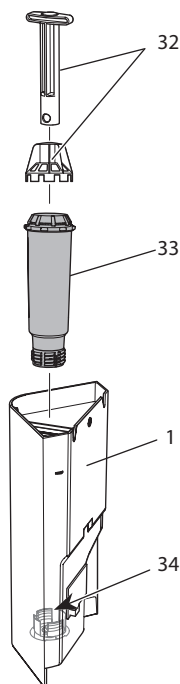

Fig. 18: Screwing/Unscrewing the water filter
7. Insert a new filter in the water tank (see *Fig. 18*).
2. Remove the water filter (see *Fig. 18*).